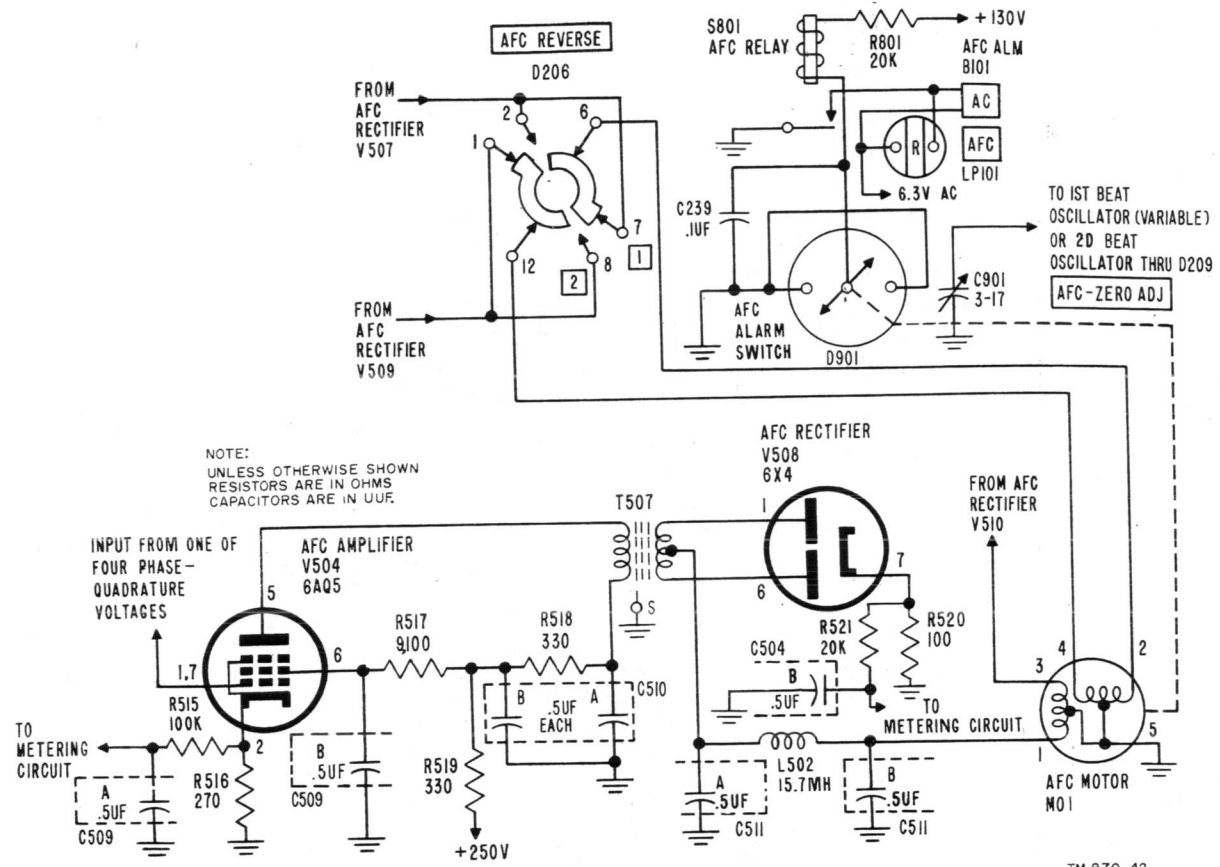

Figure 50. Afc amplifier and rectifier, schematic diagram.
c. Afc amplifier V504 is a conventional, rf amplifier (fig. 50). The primary of T507, which functions as the plate load for V504, is resonated to 100 kc by its distributed capacity. The